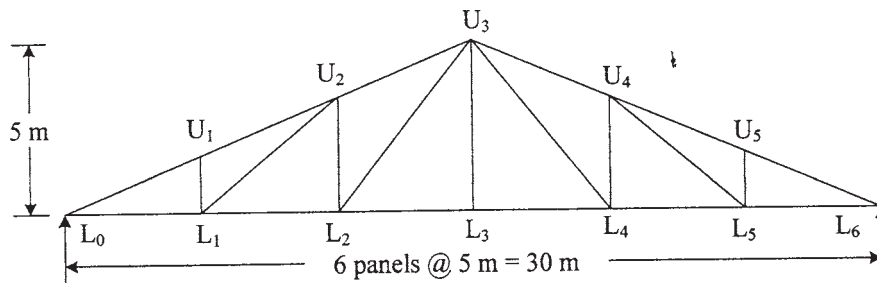

Fig. 9
- b) Determine the panel point dead load, live load and wind load for an industrial truss as shown in Fig. 9. The design wind pressure is 1200 N/m², the trusses are covered with A C sheet and the centre to centre spacing of truss is 6m. **[8]**